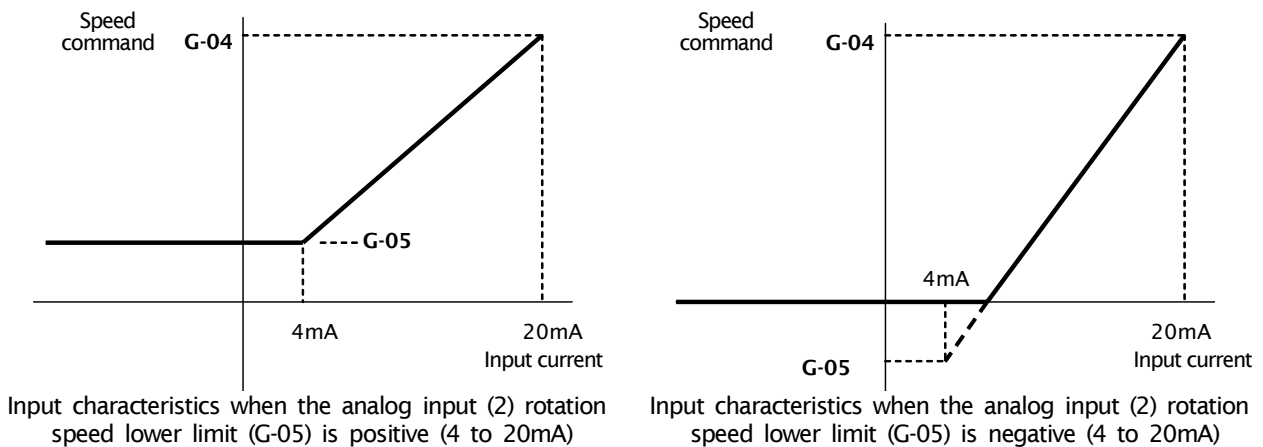

Figure 5.4 Speed command characteristics with current input of 4 to 20mA
The rotation speed command value is set as the analog input (2) rotation speed lower limit (G-05) when the input is 4mA. When the input is 20mA, it is set as the analog input (2) rotation speed upper limit (G-04). However, this will be set to “0” if the analog input (2) rotation speed lower limit (G-05) has a negative value. (Figure 5.4) If the minimum rotation speed (A-01) is other than “0”, the rotation speed command absolute value is controlled to prevent falling below the minimum speed. As a speed command, this only allows forward operation. For reverse operation, a reverse operation command should be used.